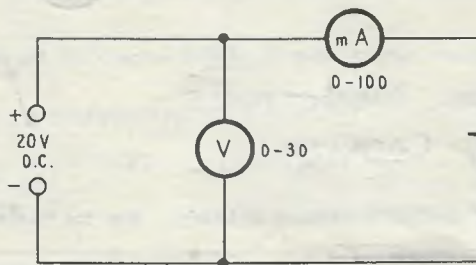

FIG. 2.
STEP 4: Connect the circuit as shown in Fig. 2.